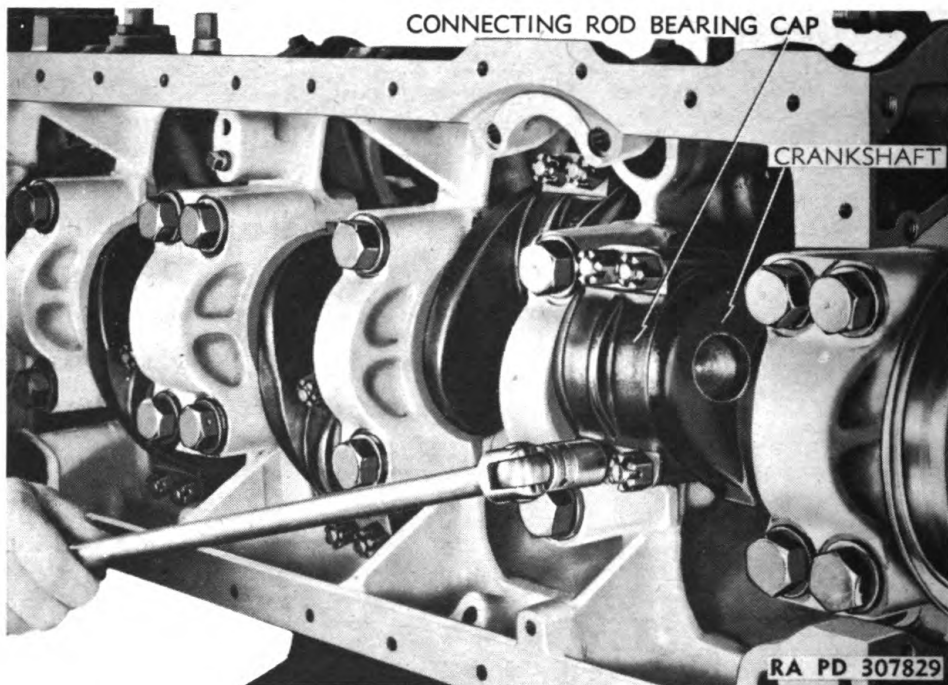

Figure 25 — Removing Connecting Rod Bearing Cap
f. Remove Piston and Connecting Rod Assemblies. Remove cotter pins from connecting rod nuts. Remove piston and connecting rod assemblies one at a time. Pull cotter pins and remove the nuts from the connecting rod bolts (fig. 25). Remove bearing cap and bearing insert from connecting rod. Scrape carbon from cylinder wall above piston, then using a hammer handle or wood block against lower end of connecting rod, push piston out of cylinder as shown in